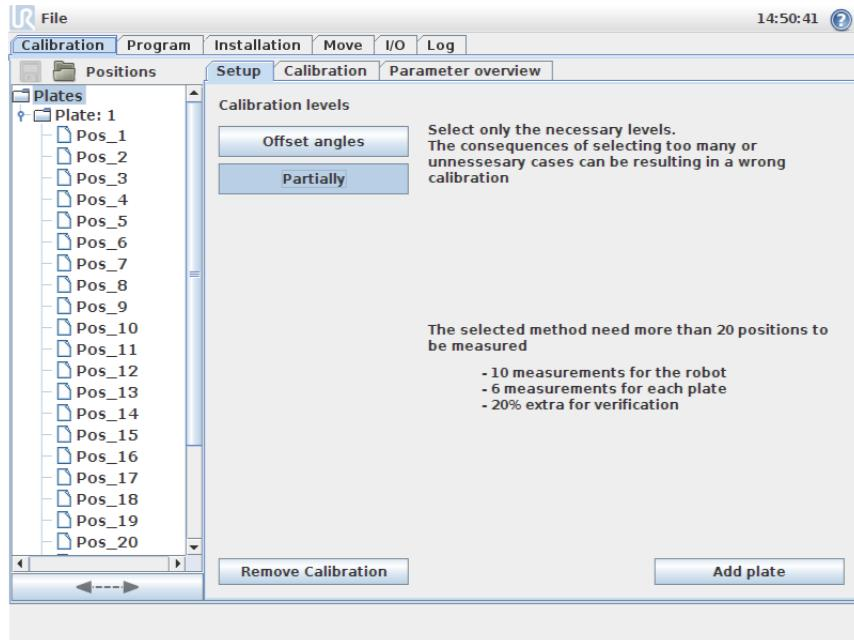

Figure 1.8: Select the top of the tree item on the left to be able to select the level of calibration.
(12) Select the top of the tree item "Plates" on the left to be able to select the level of calibration, see Figure 1.8.